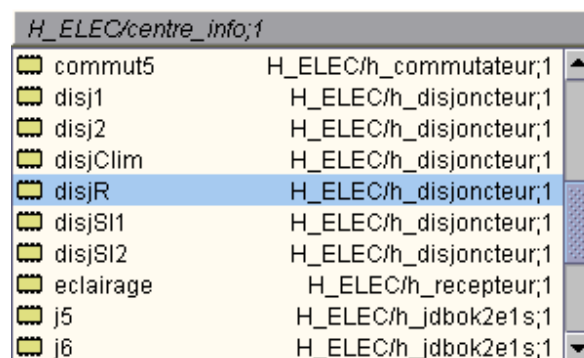

Figure 80 : Synchronization – Event selection
- Type **<.>** (point) following the name **<Component_Name >**., to display the constituents list for an equipment, and to pursue the hierarchical search or the events list for a component (Figure 80),